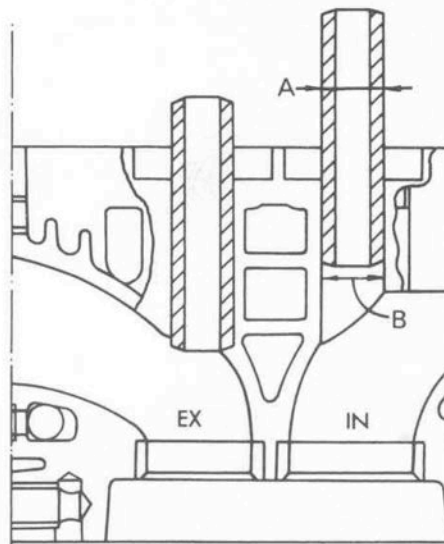

FIG 1:11 Standard tolerances for valve guides and guide bores in head, indicating the desired interference fit
Lubricate the valve stems. Refit in the correct position and fit the springs and associated parts, not forgetting the oil seals on the inlet valve stems. Compress the springs and refit the cotters, taking care to fit the grooved cotters to the exhaust valve stems. The cotter grooves are shown in FIG 1:10.
**Key to Fig 1:11**